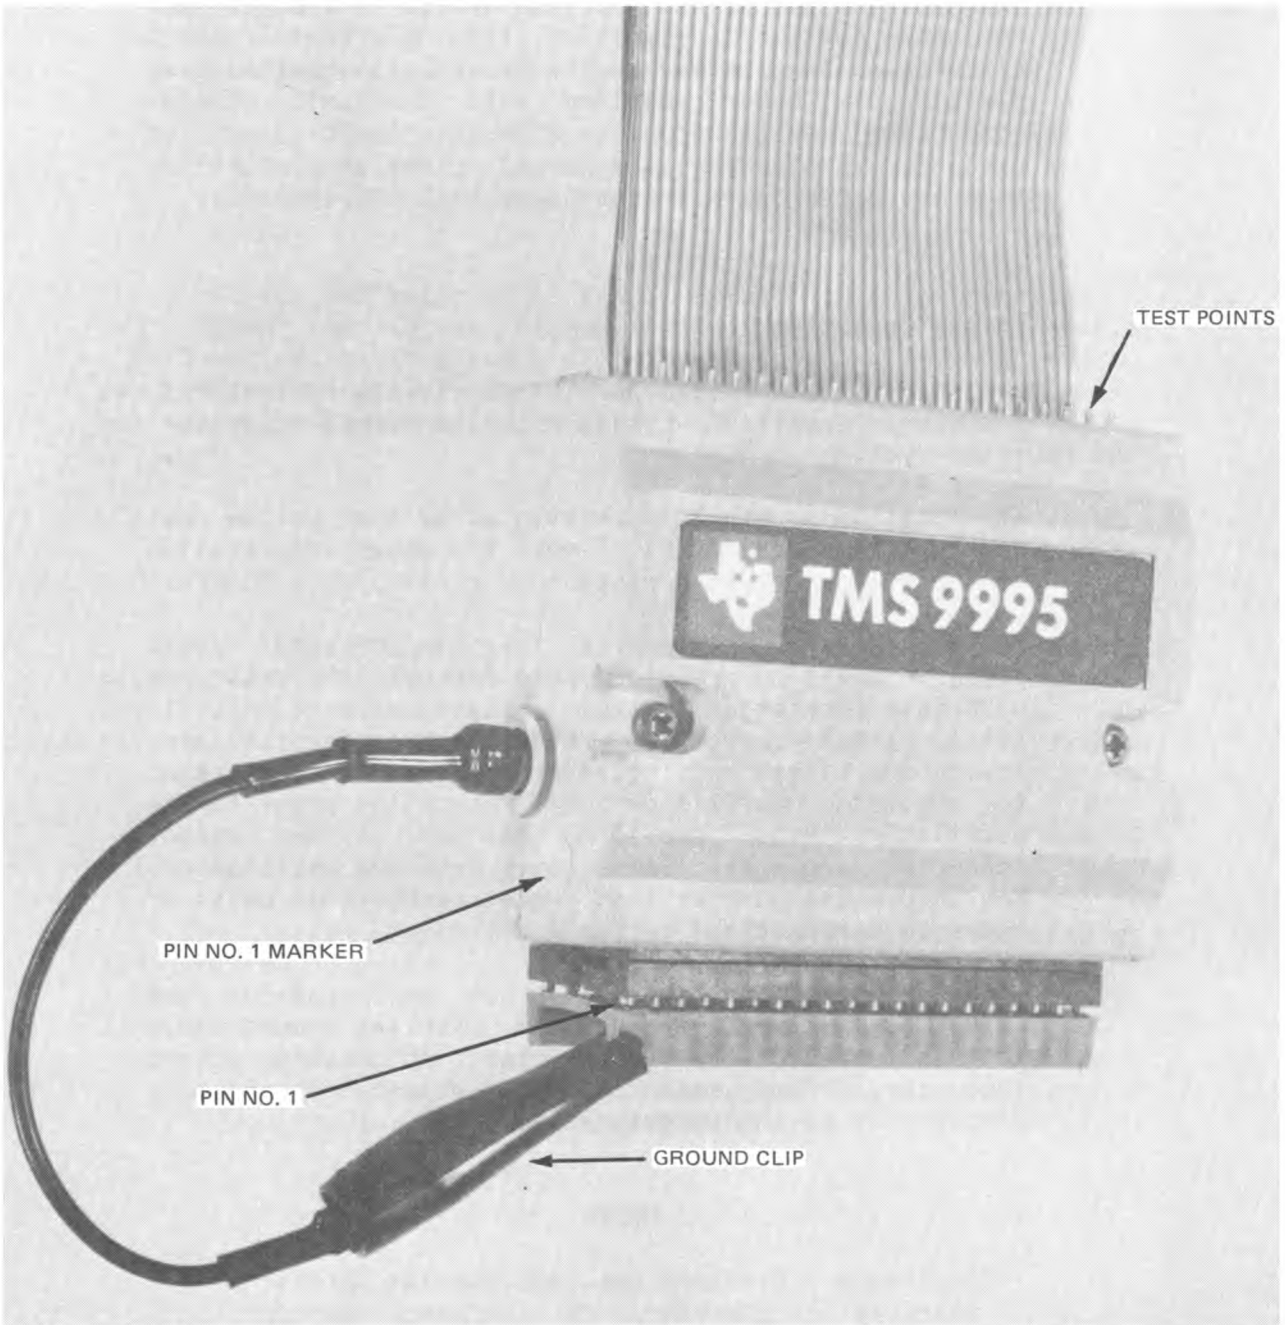

Figure 2-1 Target Connector
1. The location of pin 1 is referenced by the yellow dot on the target connector. Figure 2-1 shows the location of the yellow dot with respect to pin 1.